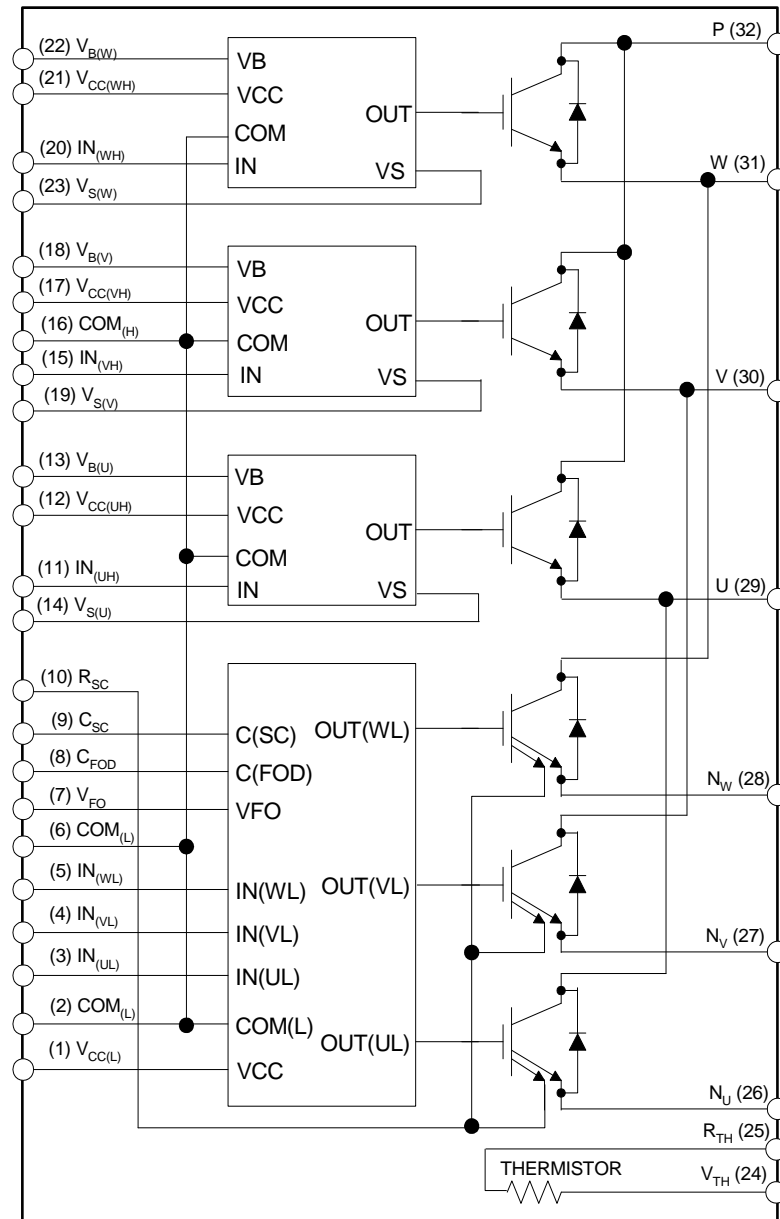

Figure 3. Internal Block Diagram
- 600V - 50 A IGBT inverter for three-phase DC / AC power conversion (please refer to Figure 3)